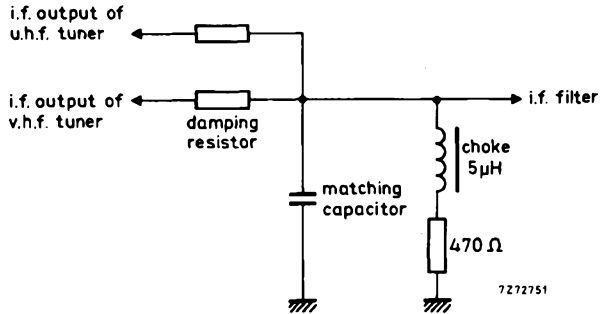

Fig. 12
The tuner needs a d. c. path from the i. f. output terminal (T) to earth, preferably via a choke of approx. $5 \mu\text{H}$ outside the tuner (Fig. 12).
In the case where the tuner is used in combination with a u. h. f. tuner, this choke can be common for both tuners; a resistor in series with the choke can make ineffective the i. f. output circuit of the switched off tuner. For damping the i. f. output circuit and matching the i. f. output impedance of the tuner to the i. f. amplifier, a series resistor and a parallel capacitor as shown in Fig. 12 should be used.